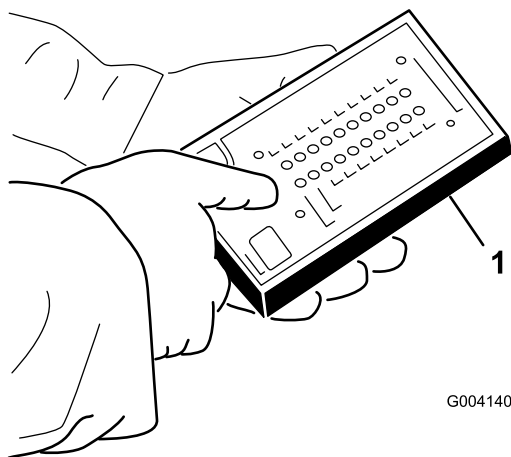

Figure 28
5. Connect the Diagnostic ACE display tool connector to the harness loop back connector (Figure 28).